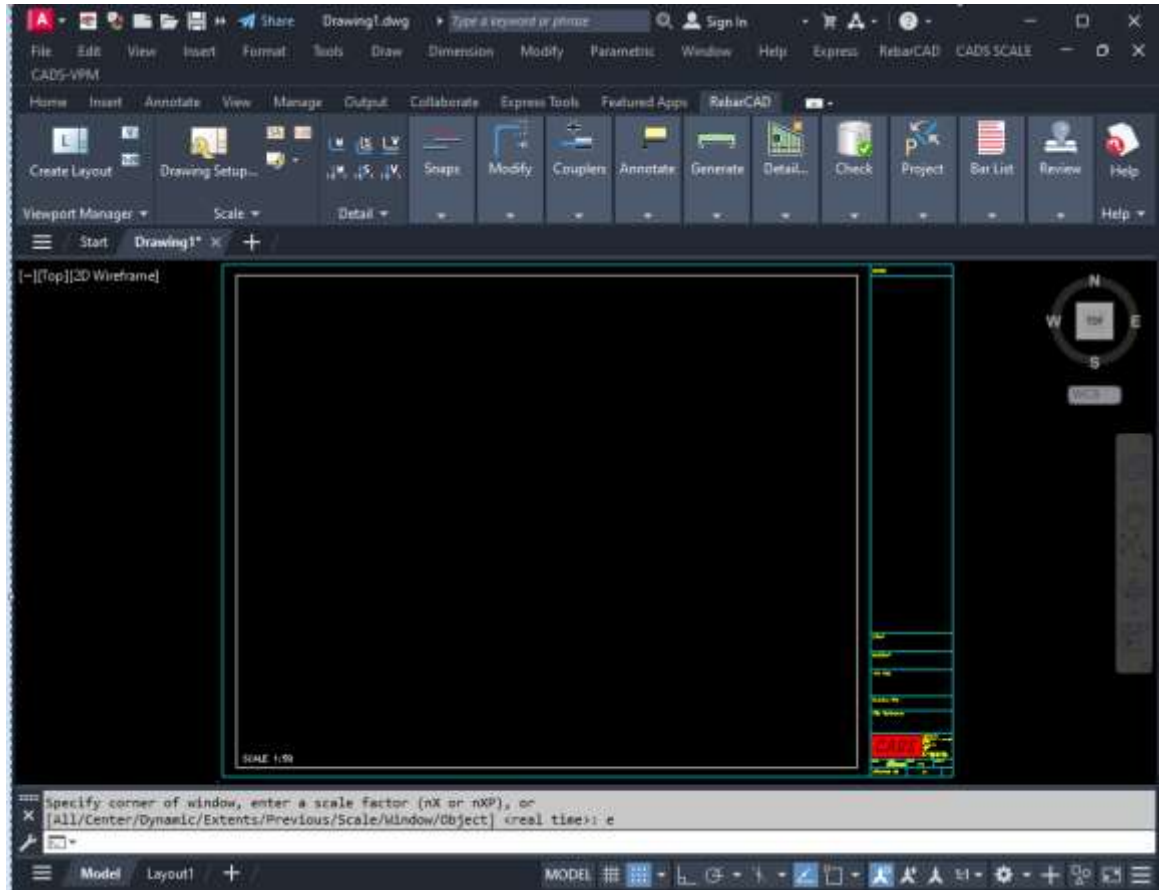

Figure 2.9 Completed A1 Fast Mode Setup with 1:50 Scale Area
- ▶ When you have defined the scale area, the CADs: Setup Scale dialogue box will appear and you may select the required scale, in this case 1:50. Upon leaving the dialogue box via the OK button, the drawing will be displayed as shown in Figure 2.9.